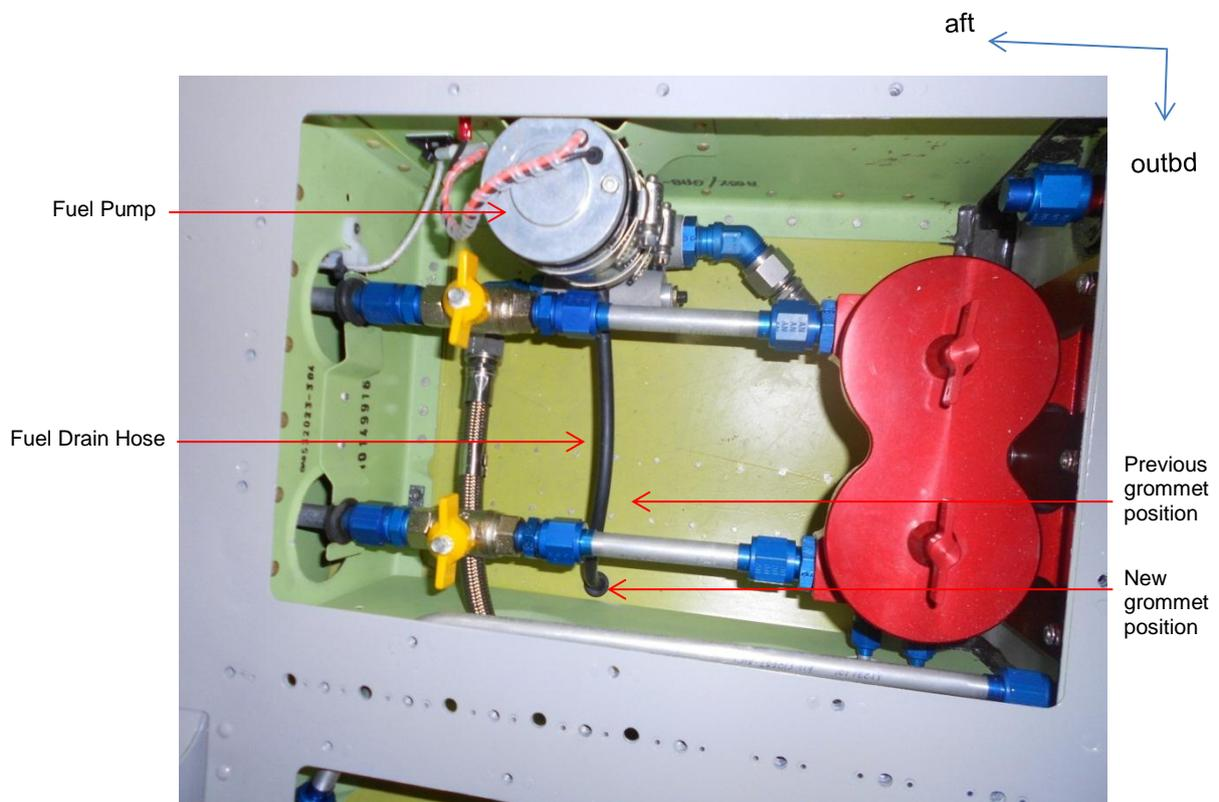
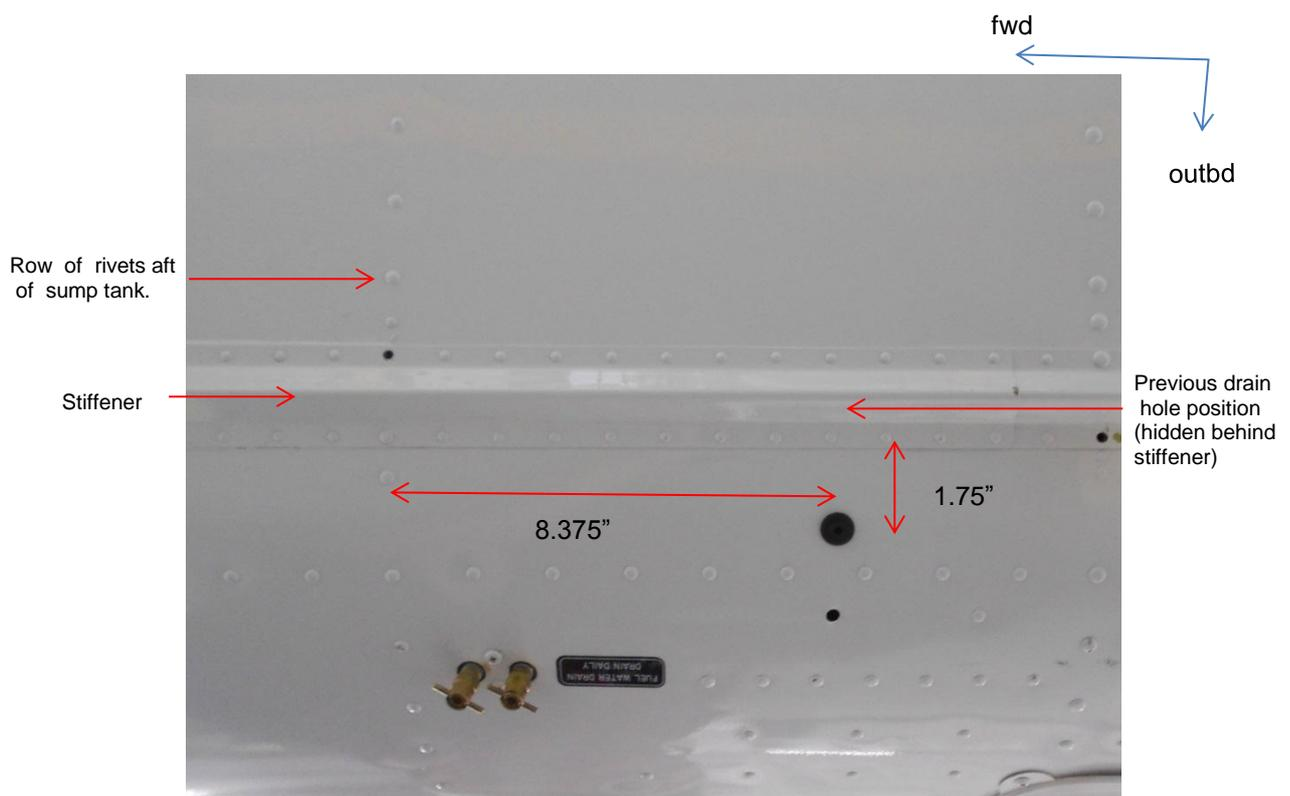

Figure 2 – Drain hole location (As seen from above)
Figure 3 – Drain hole location (As seen from below aircraft.)
3. Inspect for the fuel drain hose. See Figure 2. Check that the drain hose exits the belly skin of the aircraft through the grommet, outboard of the stiffener which runs along the belly skin (see Figure 3). If this is the case, then re-install inspection panel, seat rails and co-pilot seat (if required). If not then, continue on to Step 4.
4. Drill a 7/16" (0.437") diameter hole into the belly skin in location shown in Figures 2 and 3. Be careful to avoid the fuel lines in this area. De-burr the hole.